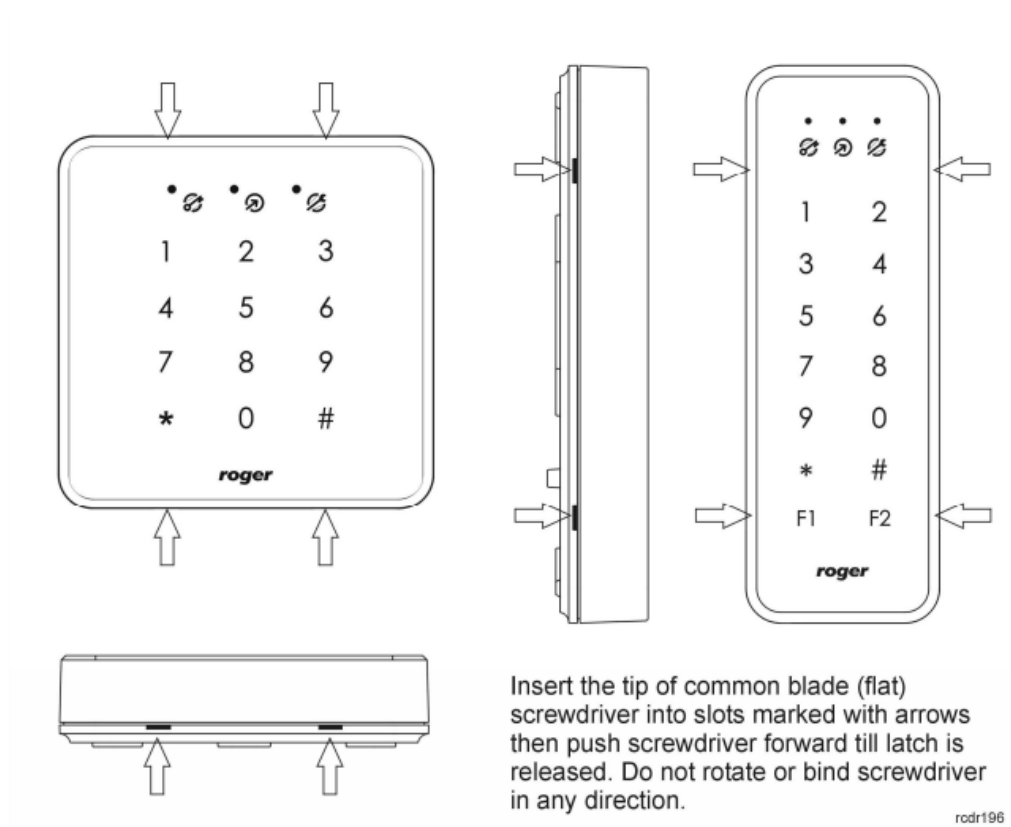

Fig. 4 Location of latches
2. The reader enclosure consists of a front and rear panel. Before installation it is necessary to separate them by means of ordinary flat screwdriver according to method explained in Fig. 4.